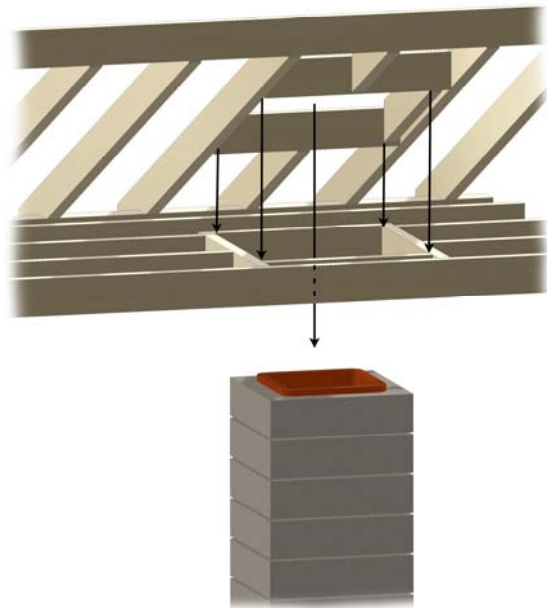

Figure 23. Roof Penetration
C. Measure to all sides of the nail and mark the required opening, and then cut a hole in the roof. Remember that the hole is measured on the horizontal, and then projected to the roof. The hole may then be larger, depending on the pitch of the roof. See Figure 23.